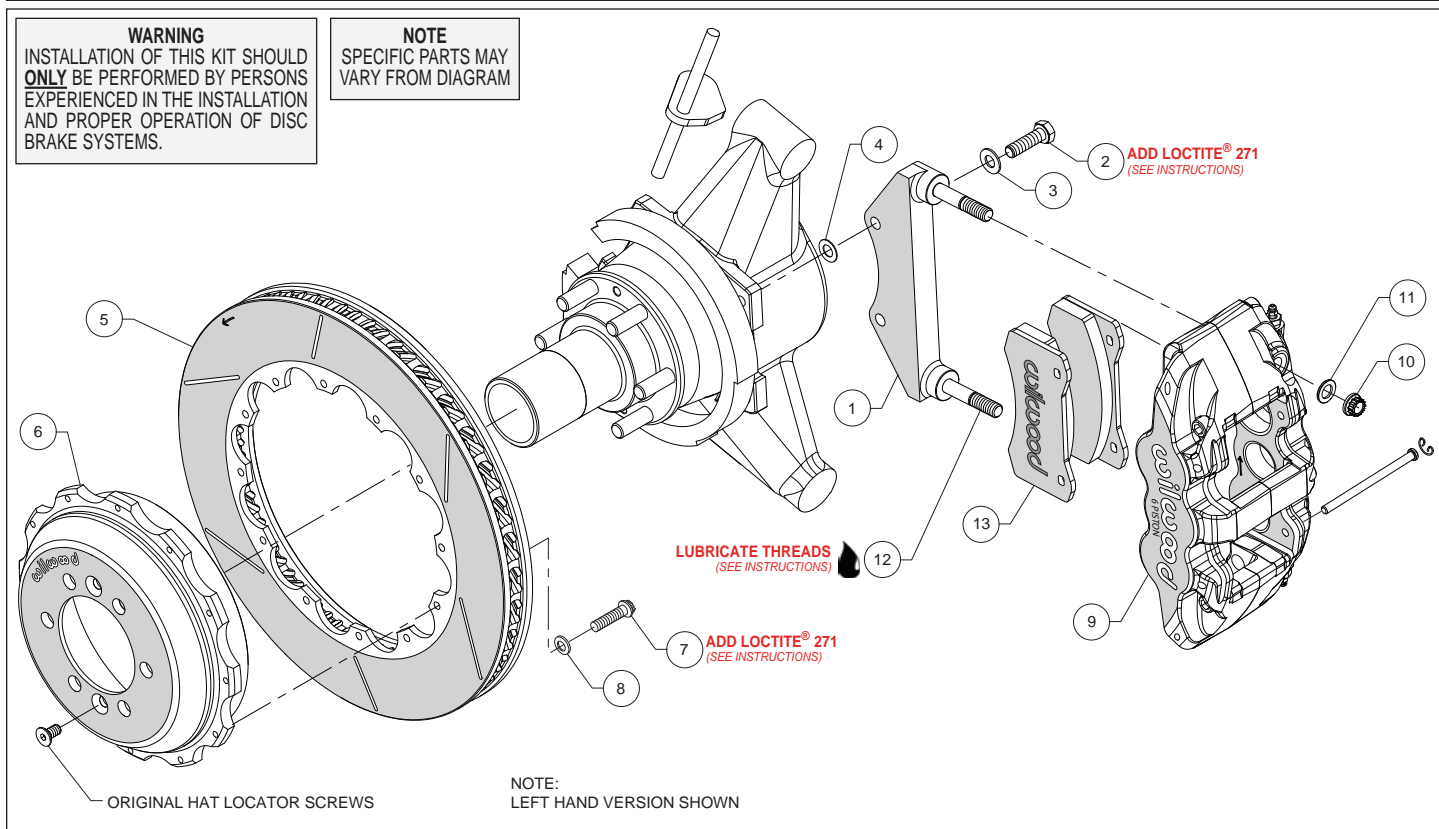
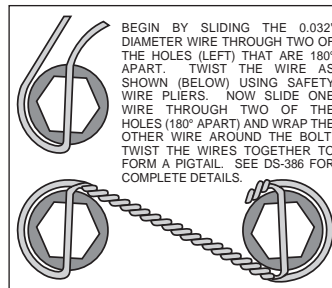

Figure 1. Typical Installation Configuration
Figure 3. Safety Wire Diagram
Assembly Instructions (numbers in parenthesis refer to the parts list and Figure 1 on the preceding pages):
- The caliper mount bracket (1) should initially be installed with clean, dry threads on the mounting bolts. Orient the bracket as shown in Figure 1 and Photo 1, and install using bolts (2) and washers (3). Initially place one .030 thick shim (4) on each bolt between the bracket and upright, Figure 1. Temporarily tighten the mounting bolts. **NOTE:** *The bracket must fit squarely against the mounting points on the upright.* Inspect for interference from casting irregularities, machining ridges, burrs, etc. Later, after the caliper alignment has been checked, the mount bolts will be secured using red *Loctite*[®] 271.
- Orient the rotor (5) and the hat (6) as shown in Figure 1 and Photo 2. Attach rotor to hat using bolts (7) and washers (8). Using an alternating sequence, apply red *Loctite*[®] 271 to the threads, and torque to 155 in-lbs. For an added measure of security, the bolts may be safety wired using standard 0.032 inch diameter stainless steel safety wire as shown in Figure 3. Please refer to Wilwood's data sheet DS-386 (available at www.wilwood.com/Pdf/DataSheets/ds386.pdf) for complete safety wire installation instructions.
- NOTE:** *This kit contains distinct right and left hand calipers that must be mounted in a specific direction, as described below.* Lubricate the caliper mounting studs (12) with lightweight oil. Mount the caliper (9) onto the bracket (1) using lock nuts (10) and washers (11), Figure 1. Ensure that the caliper is mounted so the largest pistons are at the rotor exit end of the caliper, in relation to the direction of rotor rotation. Temporarily tighten the lock nuts and view the rotor through the top opening of the caliper. The rotor should be centered in the caliper, Photo 4. If not, adjust by adding or subtracting shims (4) between the bracket and the upright. Always use the same amount of shims on each of the two mounting bolts. Once the caliper alignment is correct, remove the bracket mounting bolts (2) one at a time, apply red *Loctite*[®] 271 to the threads, and torque to 35 ft-lbs.
- Remove the two pad retaining pins from the caliper (9) by carefully popping out the pin retaining clips and sliding out the pins. Insert the brake pads (13) into the caliper from the bottom, Figure 1 and Photo 5. With the friction material facing the rotor, secure the brake pads in place with the pad retaining pins and clips, Photo 6. Reinstall the caliper onto the caliper mounting bracket and torque the caliper lock nuts (10) to 47 ft-lb.